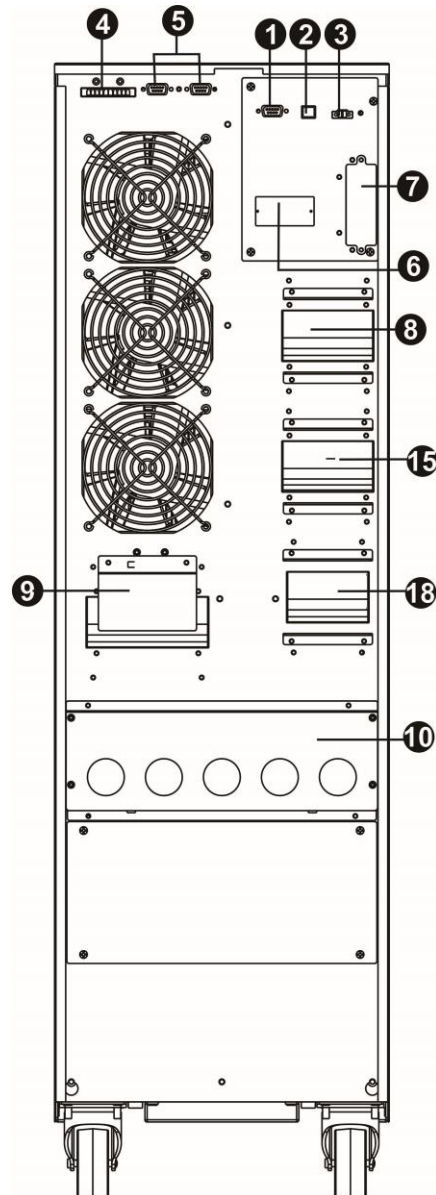

Figure 6.2
1. Remove the metallic panel (see figure 6.2 #3) that covers the SNMP slot